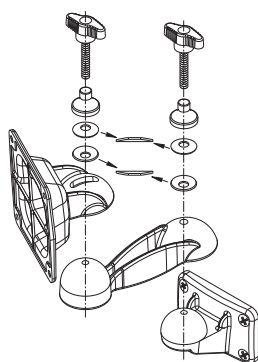

Fig. 2
2. Assembly drawing (Refer Fig. 2).